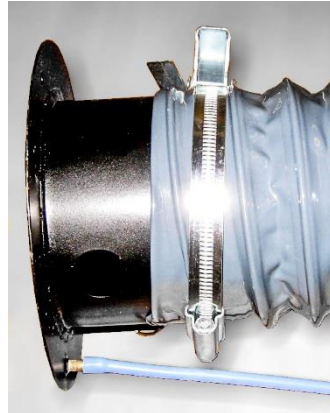

Figure 5. Connecting Pressure Tubing to Tap on Primary Duct Adapter. Bung not shown.
8. If the static pressure tap on the black Primary Duct Adapter is open to the duct, connect the 16-ft (5-m) long blue silicone tube to it as shown in Figure 5.